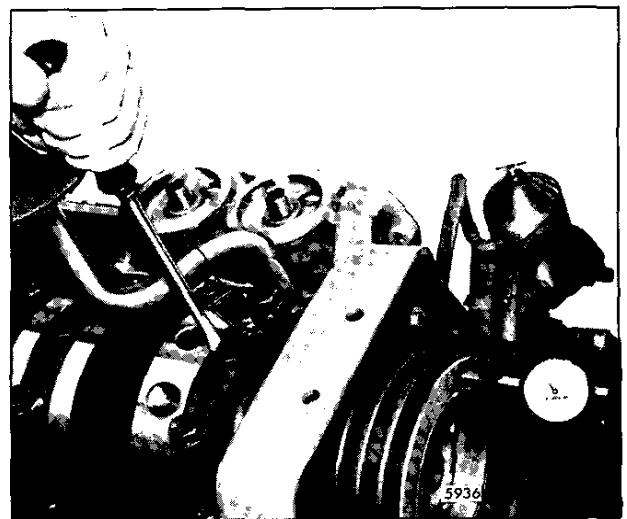

Fig. 4 - Checking Crankshaft End Thrust
6. Check the crankshaft end play by moving the crankshaft toward the gage (Fig. 4) with a pry bar. Keep a constant pressure on the pry bar and set the dial indicator to zero. Then remove and insert the pry bar on the other side of the bearing cap. Force the crankshaft in the opposite direction and note the amount of end play on the dial. The end play should be .19 mm to .38 mm (.007" to .015") with new parts. Insufficient end play can be the result of a burr or dirt on the inner face of the thrust bearing.